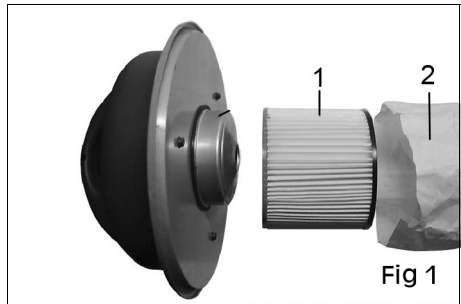

Fig 1
1. Place filter cartridge (1) into a filter bag (2) as in Fig 1.